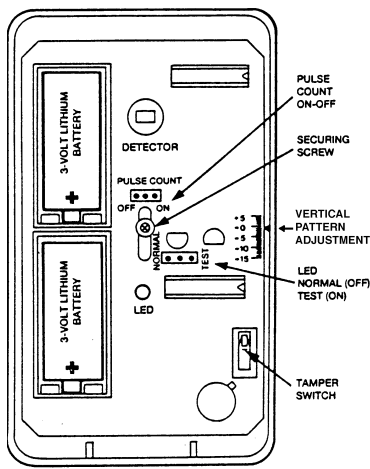

Figure 5. PC Board
2. **Observing correct polarity**, install the two Lithium batteries (supplied) into the battery holders, as shown in Figure 5. Make sure the batteries are firmly seated.
To program the detector, place the LED jumper in the TEST position (see Figure 5), the Pulse Count jumper in the OFF position, batteries installed and cover on. Temporarily cover the lens (a cloth will do) to prevent any activation by the detector.
2. Temporarily loosen (do not remove) the screw holding the PC board in the detector base (see Figure 5 for location of this screw).
5. Before fully tightening the PC board holding the screw, make sure the board is positioned so that the arrow is in line with the appropriate setting on the graduated scale on the right-hand side of the PC board (see Table 1 and Figure 5).
The protection pattern provided by the lens in use can be raised or lowered by repositioning the PC board in the detector. A graduated scale to the right of the board (see Figure 5) indicates the approximate number of degrees by which the pattern can be raised (max. +5°) or lowered (max. -15°). The detector is normally shipped with the board set to the 0° position. To make this adjustment, remove the cover on the detector and loosen the screw holding the PC board (the screw is located at the approximate center of the board). Slide the board upward or downward by the number of degrees required, then tighten the holding screw again. After any adjustment, you must conduct a Walk-Test to ensure proper coverage of the area to be protected, as indicated under "Test Procedures."
Each detector includes Pulse Count circuitry that is designed to provide stability in adverse environments to minimize false alarms. Pulse count is selected by positioning a jumper across the ON pulse count terminals (shown in Figure 5). When set for pulse count ON, the detector will signal an alarm within 2 or 3 steps, since the processing logic requires more complex motion than just a momentary event. When the detector verifies an intrusion, the built-in transmitter will send an alarm message to the control/receiver.
The detector is shipped with the LED disabled (LED jumper in the "NORMAL" position). The LED may be enabled (for the Walk-Test) by positioning the LED jumper in the "TEST" position (see Figure 5).
† See Figure 5 for location of adjustment scale on PC board (refer also to "Vertical Pattern Adjustment")